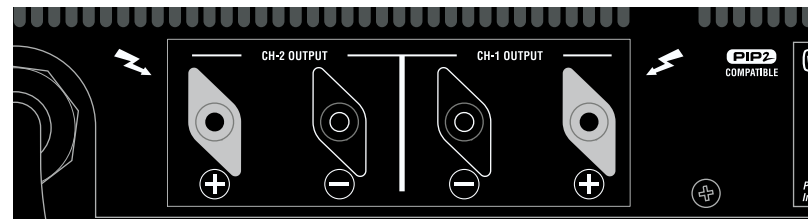

Figure 4.4 International Output Binding Posts
**Note:** Some international models include high-current binding posts rather than the output block. Figure 4.4 shows the international binding posts.